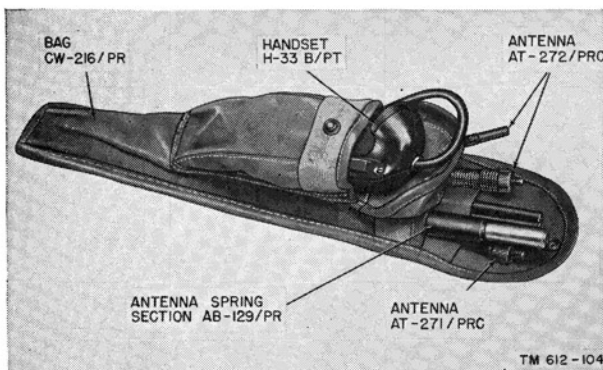

Figure 8. Bag CW-216/PR and minor components.
f. *Bag CW-216/PR or CW-216A/PR* (fig. 8). The bag hangs from the operator's combat belt. It carries all the minor components or those not in use during operation. The following items are stored in the compartments: